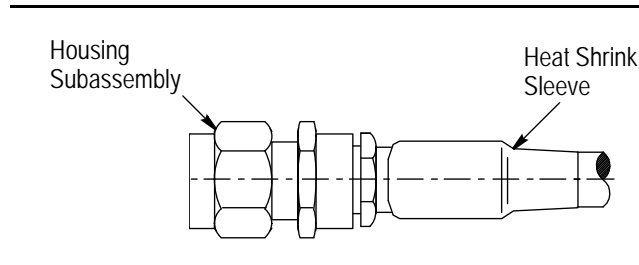

Figure 6
3. Slide the heat shrink tubing over the ferrule as shown in Figure 6, and shrink the tubing.